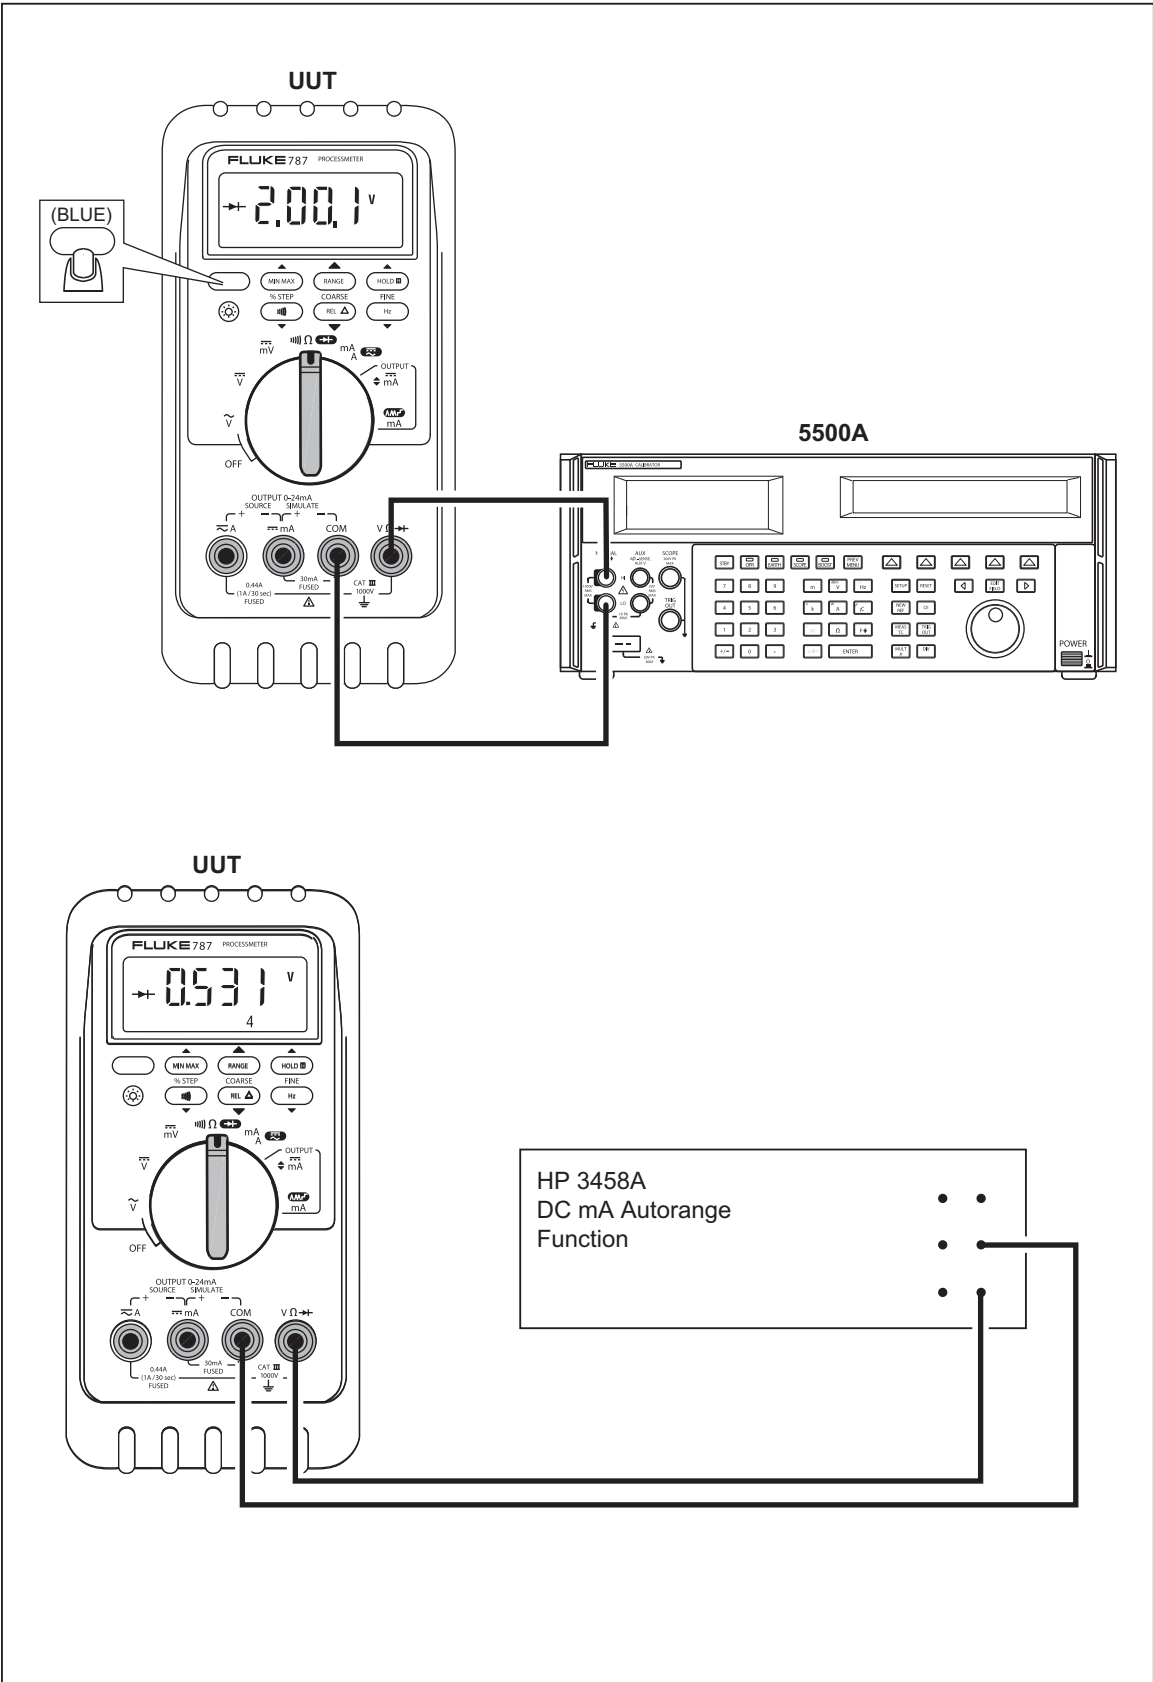

Figure 6. Diode Test Connections
4. Connect the calibrator to the **COM** and **VΩ** terminals on the UUT as shown in Figure 6.